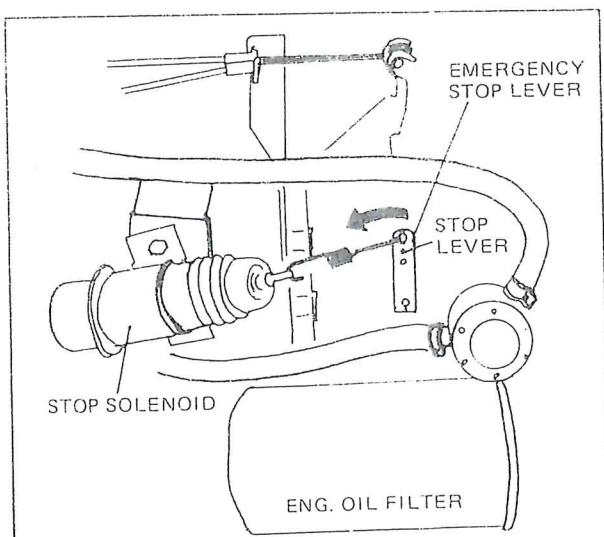

Figure 4-1 — Emergency Stop Lever
2. The stop lever, in Figure 4-1, must be turned as the arrow mark to shut off fuel.